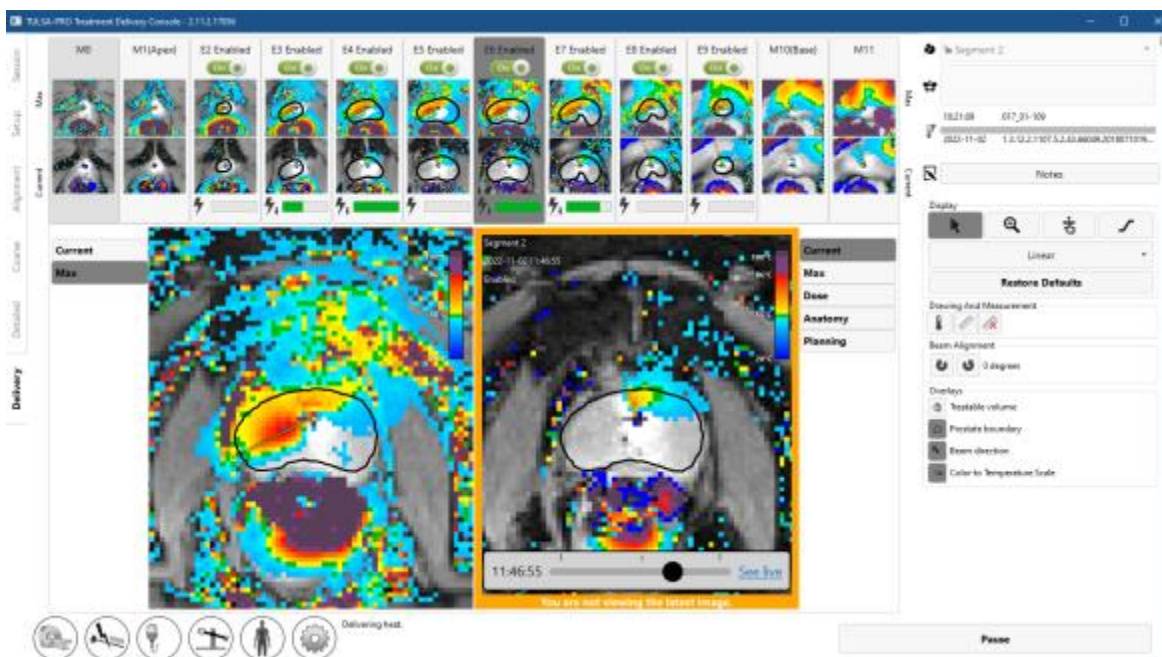

Figure 53: “You are not viewing the latest image” message below history slider
**NOTE:** When viewing images from previous timepoints, a frame around the right viewport shows that the latest images are not being viewed (*Figure 53*). A dashed line shows where the beam angle was at the previous timepoint. To return to the current timepoint, click **See live** or drag the History Slider until the framed message disappears.